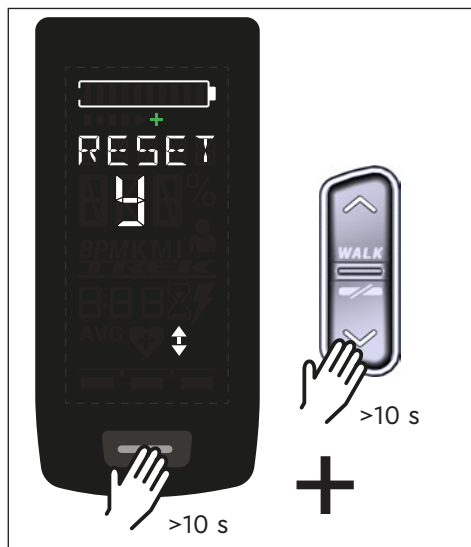

Fig. 10: Reset to factory settings
- ▶ Press and hold the button on the Display and the DOWN button on the Remote for at least 10 s, the Setup-Mode is indicated first and RESET is followed (see Fig. 10).